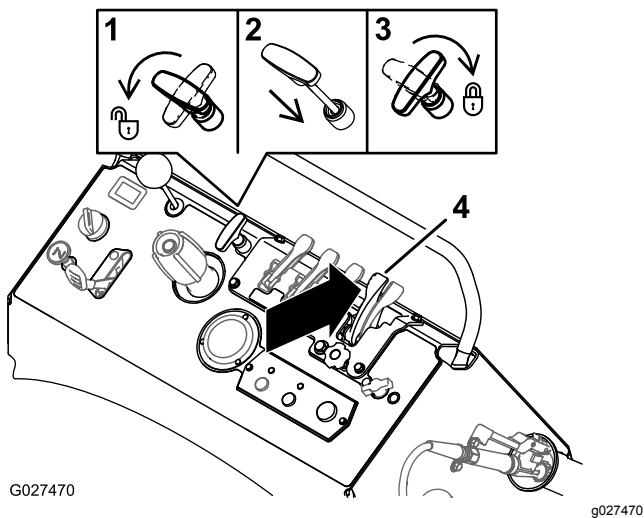

Figure 85
3. Close the impeller gate by pushing the wide-distribution impeller-gate lever forward fully (Figure 85).
4. Rotate the spread-pattern-control handle counterclockwise, push the handle down, and rotate the spread-pattern-control handle clockwise(3) refer to Figure 85.